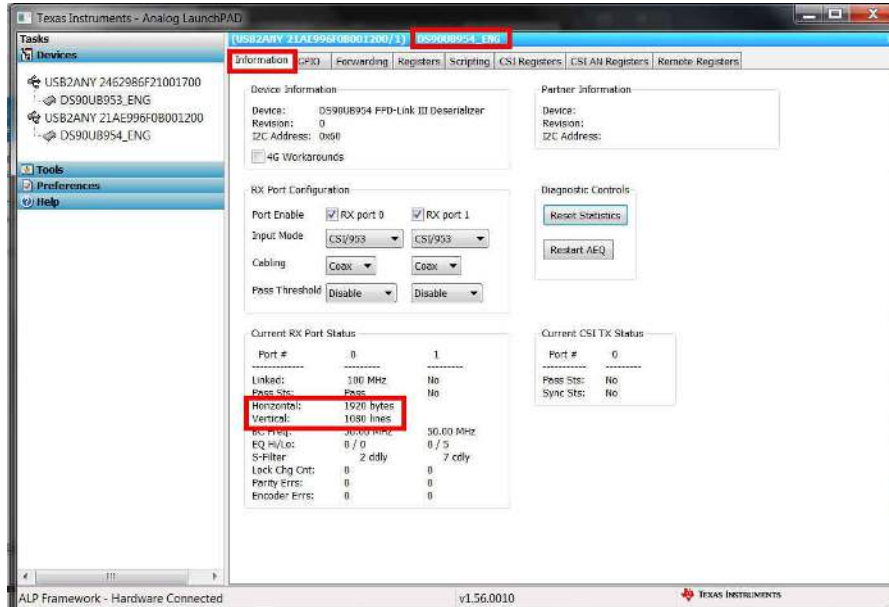

Figure 3-39. Verifying Camera Initialization in ALP
- Verify that the pattern has been enabled navigating to the information tab on the DS90UB954 (or variant), and checking to the horizontal and vertical parameters for the appropriate resolution defined by the camera. Figure 3-39 shows 3840 bytes and 1080 lines for the horizontal and vertical parameters, respectively. Also, verify that the DC power supply, the HP E3610, is sourcing more current.